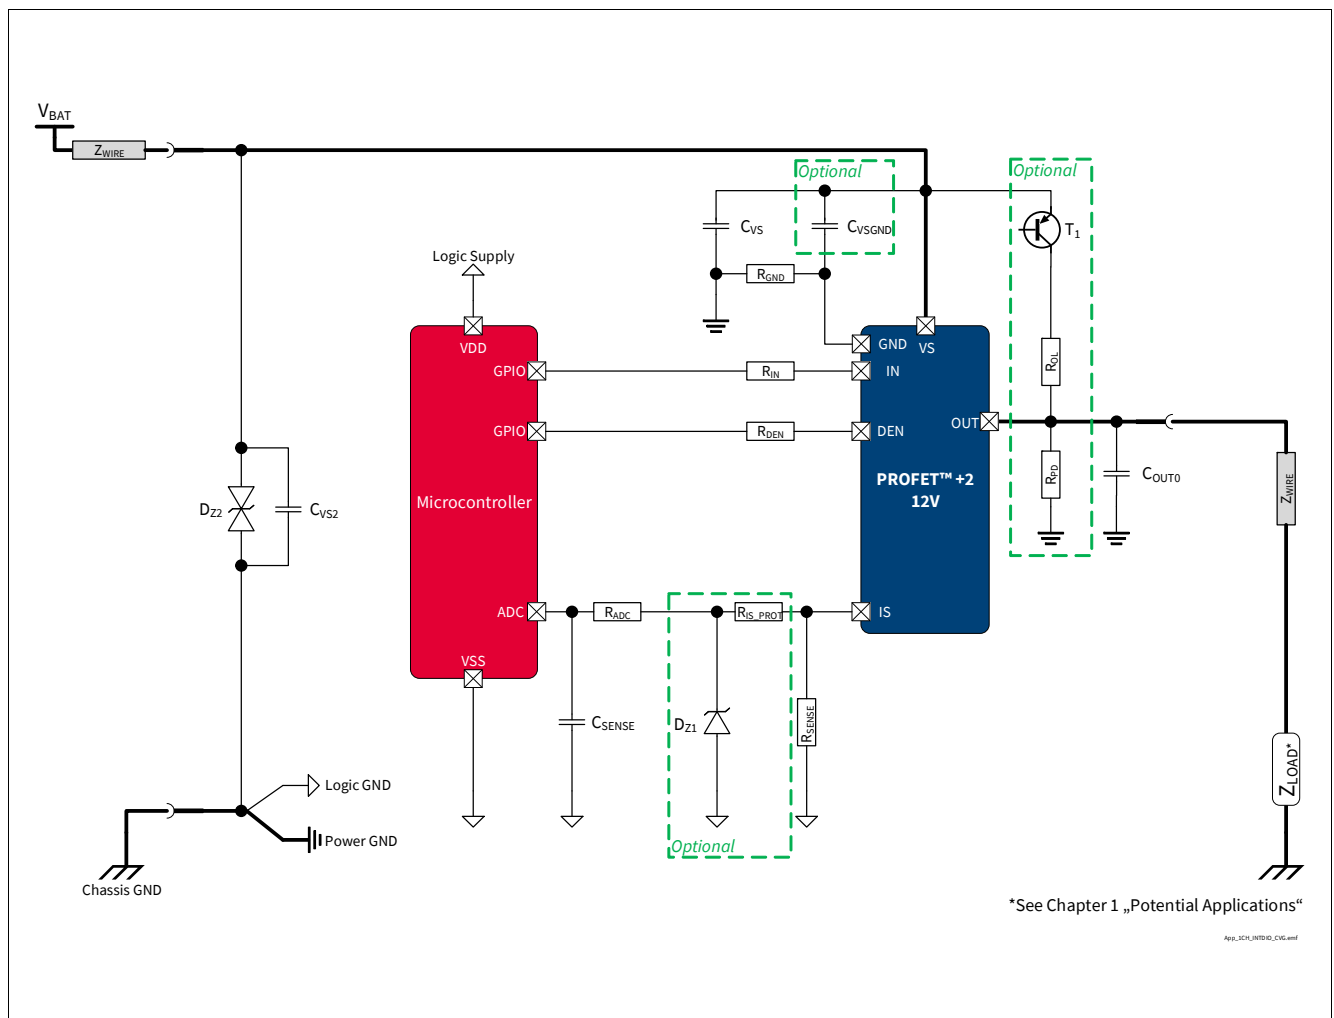

Figure 37 **BTS7006-1EPZ Application Diagram**
1.10 , 2020-12-14	Typo fixed (PROFET™+2 → PROFET™ +2) Figure 1, Figure 16, Figure 17, Figure 18, Figure 20, Figure 21, Figure 22, Figure 25, Figure 29, Figure 30, Figure 34, Figure 37 updated Chapter 1, Chapter 6.1, Chapter 6.1.3, Chapter 6.1.4, Chapter 8.2, Chapter 9.2.2 updated Chapter 8.4.1 updated (typo fixed) P_7.4.5.1, P_7.4.5.2, P_7.4.5.3, P_7.4.5.4, P_7.4.5.6, P_7.4.5.7 updated (added in Note or Test Condition: See Figure 15) P_8.6.4.1 updated (added in Note or Test Condition: See Figure 26) P_8.6.4.2 updated (added in Note or Test Condition: See Figure 27) P_9.6.0.6 updated (Parameter: SENSE Operative Range for k_{ILIS} Operation ($V_S - V_{IS}$) → Saturation Voltage in k_{ILIS} Operation ($V_S - V_{IS}$)) P_9.6.0.7 updated (Parameter: SENSE Operative Range for Open Load at OFF Diagnosis ($V_S - V_{IS}$) → Saturation Voltage in Open Load at OFF Diagnosis ($V_S - V_{IS}$)) P_9.6.0.8 updated (Parameter: SENSE Operative Range for Fault Diagnosis ($V_S - V_{IS}$) → Saturation Voltage in Fault Diagnosis ($V_S - V_{IS}$)) P_9.6.0.20 updated (Parameter: SENSE Operative Range for Fault Diagnosis ($V_S - V_{IS}$) → Saturation Voltage in Fault Diagnosis ($V_S - V_{IS}$))